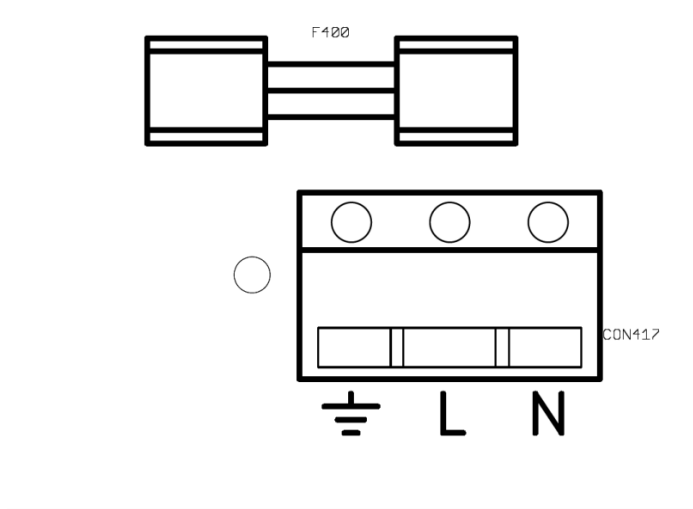

Figure 2 Mains input terminal
2. Remove the grey cover in the front panel of the charger, to access the AC input connector, see Figure 2.